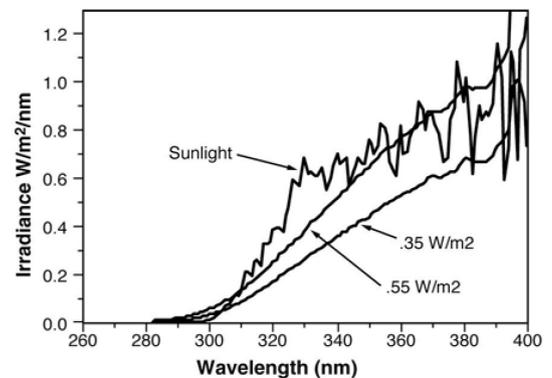

Figure 2 - Xenon Arc Effect of Irradiance Level
1. Effect of Irradiance Level - Common irradiance settings for the xenon arc are .35 or .55 W/m² at 340 nm. Most non-automotive users select a setting of .35 for reasons of practicality. As shown in Figure 2, .55 compares reasonably well with summer sunlight, but .35 is more like winter sunlight. Figure 2 shows the xenon arc with borosilicate filters.